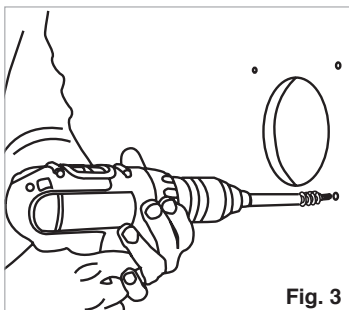

Fig. 3
4. Using the hardware supplied, drill appropriate size hole and install anchor. (see fig.3)